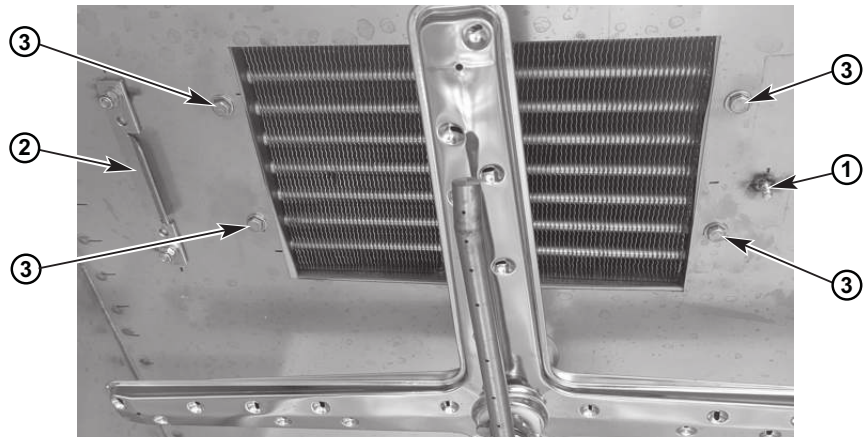

Fig. 4
- a. Remove the nut and washer from the stud located on the opposite side of the baffle from the holding bracket (1, Fig. 4).
- b. Slide the baffle to the side to free the baffle from the holding bracket (2, Fig. 4).
- c. Remove the (4) bolts, lock washers and washers (3, Fig. 4) that secure the energy recovery assembly from inside the wash chamber.